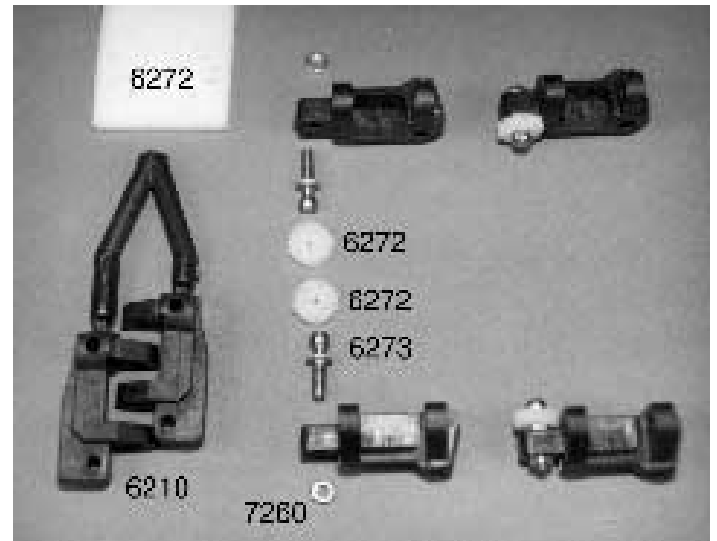

Fig. 2
□ **Fig. 2** (1) Find and remove bag #6-14. Now remove two #6273 long ball ends and two #7260 4-40 small thin plain nuts. (2) In the same bag you will find a thin flat piece of white foam with several donut shaped parts cut into the foam. These are our new #6272 foam ball end dust covers. We will be installing one of these over each ball end after it has been installed. (3) Now open bag #7-1 and remove the #6210 30° caster front carrier blocks. The carrier blocks are connected by a small molded runner which you will need to remove with your X-acto© knife. Be sure to remove all of the runner. (4) Screw one of the ball ends into each carrier block as shown (5) and then thread on the plain nuts. **NOTE: A 3/16" nut driver (#SP-86) will make installing the steel ball ends and small 4-40 nuts easier.** (6) Now install one of the foam ball end dust covers over each ball.